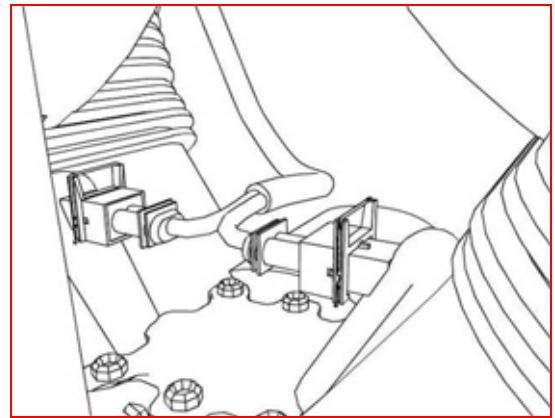

Fig 7
8. View from left, stock. (See figure 7)